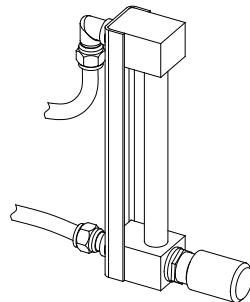

fig. 40
- Is the flow regulator (fig. 40) clogged?